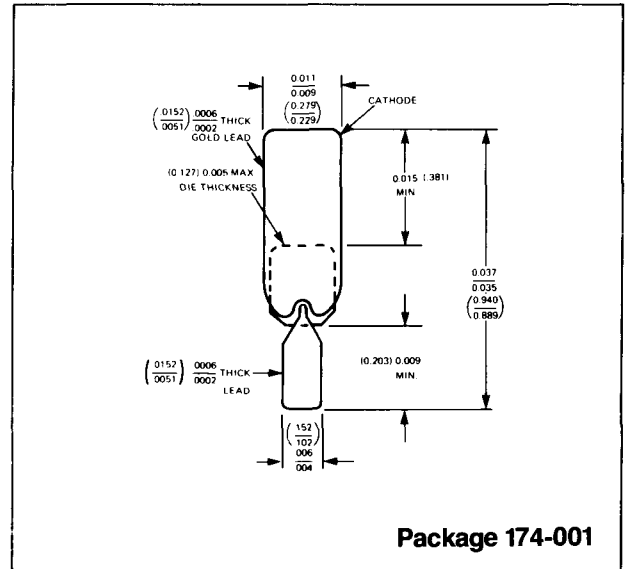

Figure 2-9
For use in MIC circuits or other special constructions, where minimum inductance or minimum size are important. Available as single diodes (174), pairs (378), and quads (294), and other monolithic arrangements (Figs. 2-9, 2-10, and 2-11):